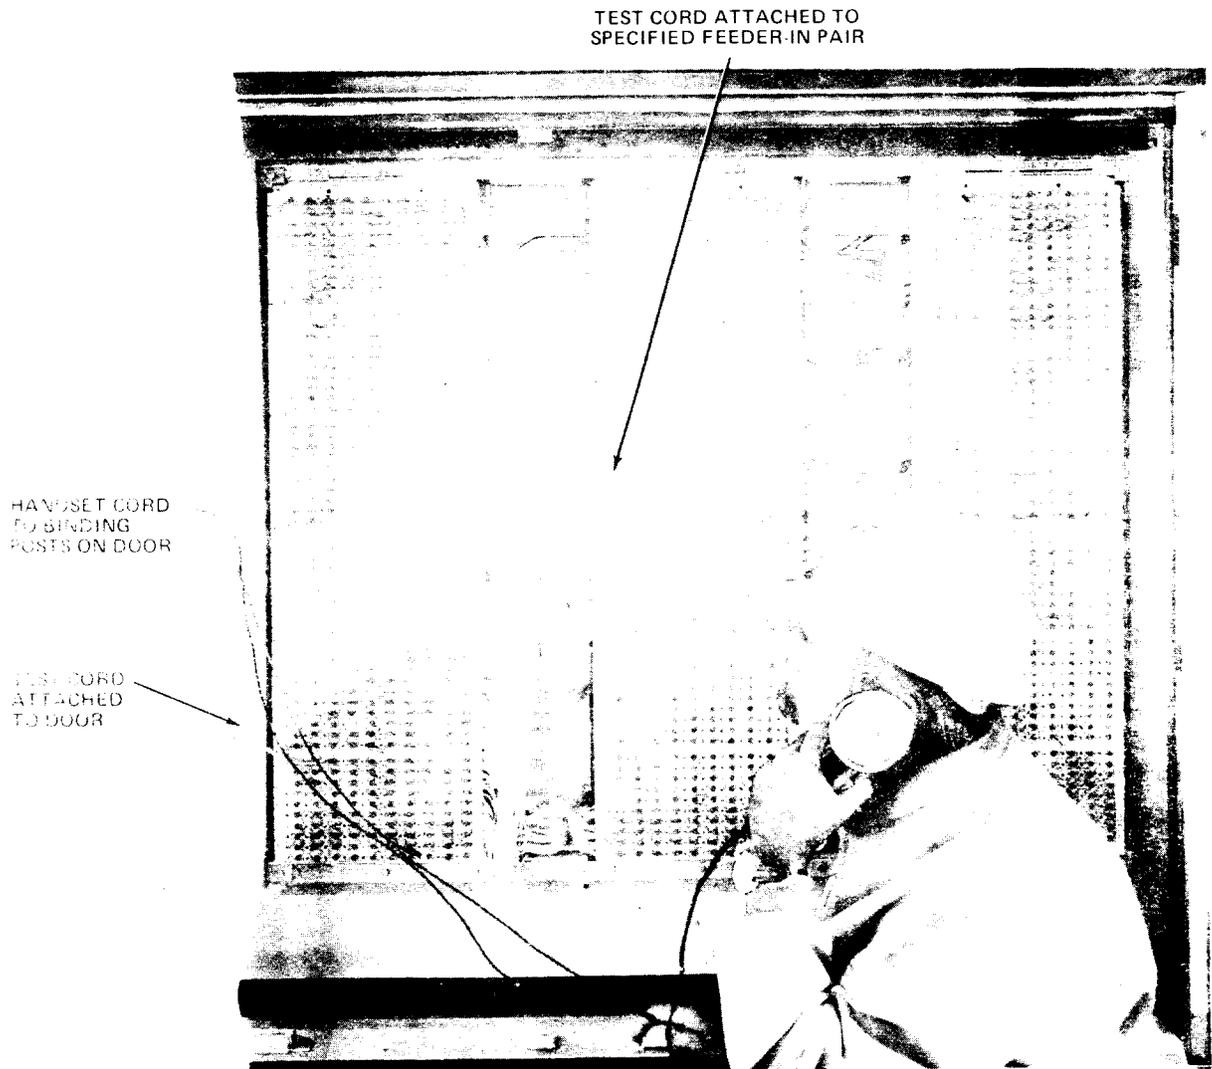

Fig. 8—Verifying Feeder-In Pair—76-Type Binding Post
5.01 Locate the feeder-in pair specified on the service order. Remove the test cord from the door. Squeeze the spring clip on the test cord, and place the clip on the specified feeder-in pair. Attach the clips from the handset to the binding posts on the door, and verify the feeder-in pair (Fig. 8).